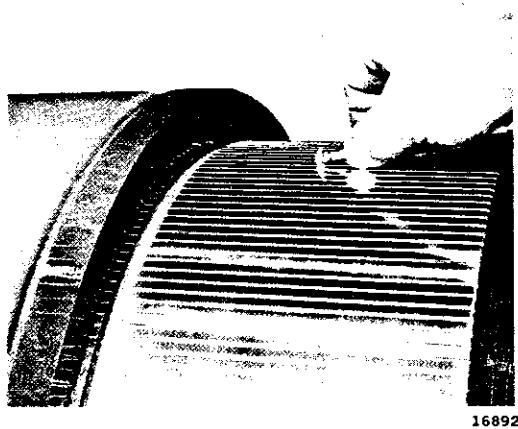

Fig. 17 - Removing Burrs from Commutator Bars
3. Break the edges of commutator bars using a de-burring tool as shown in Fig. 17. Refer to Service Data for commutator bar de-burring tool.